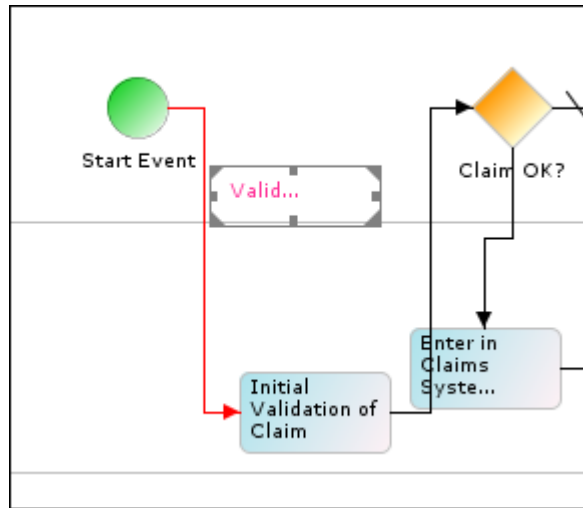

Figure 42: Edited Text Color
- Select the required color for the Label and click **OK**. This changes the Label font color to the new color (see Figure 42).